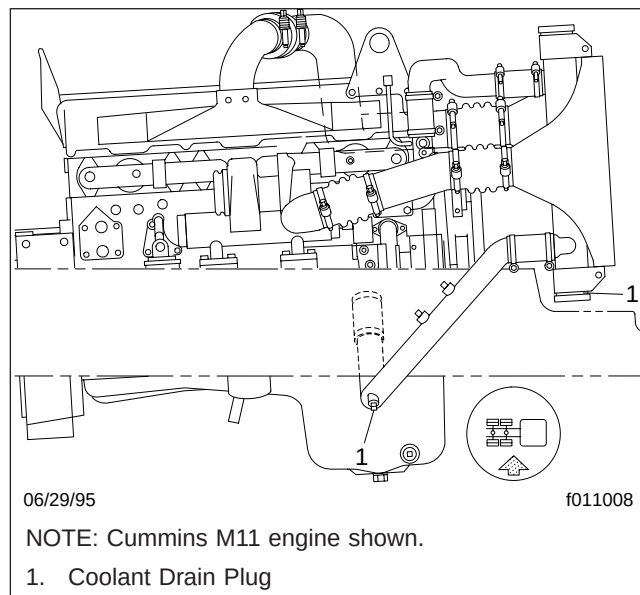

Fig. 3, Coolant Drain Plug Location
4. On Century Class Conventions, remove the drain plugs located at the radiator side tank and at the lower radiator outlet pipe elbow. See Fig. 3. Allow the coolant to drain.